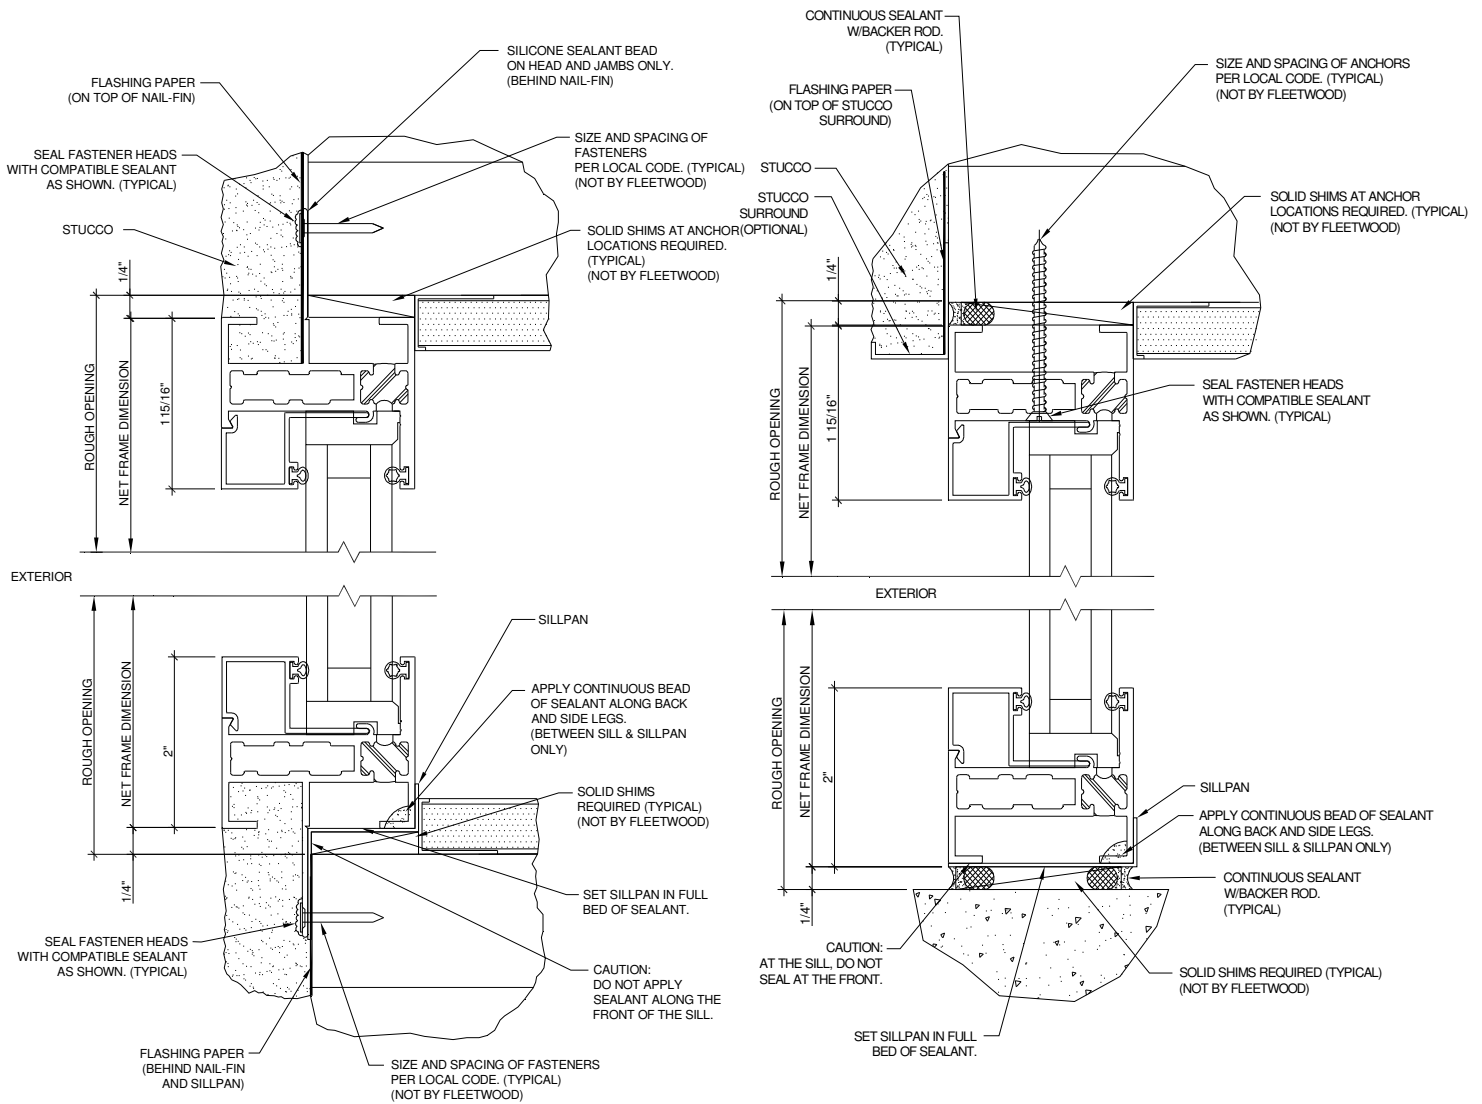

Figure 9:
- Apply a continuous bead of sealant along the back and side legs between the sill and sill pan (Figure 9, page 7) and insert the frame into the opening.